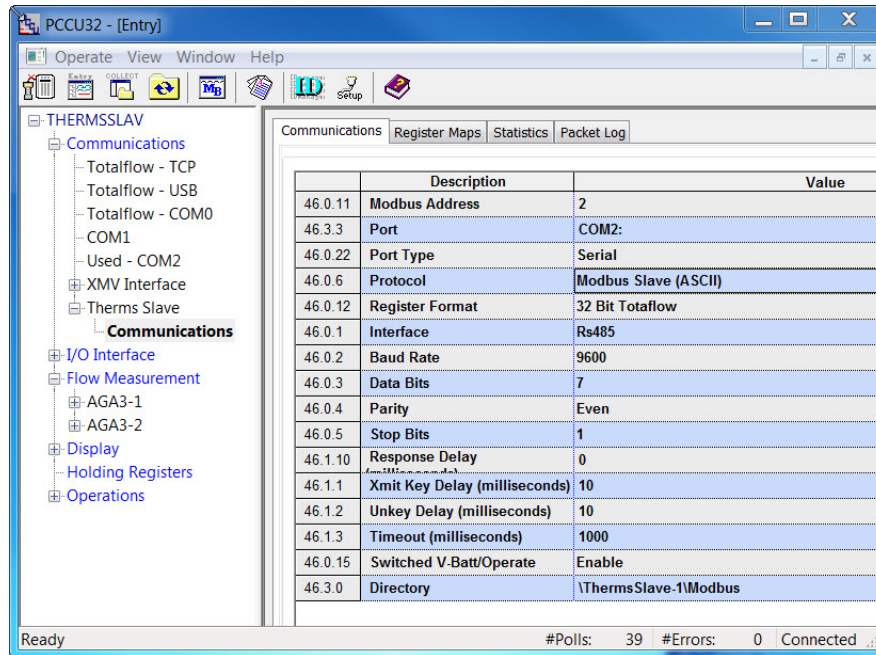

Figure 36. Configure Therms Slave communication parameter
- 4) Click re-read to verify parameters were saved correctly (see Figure 36).